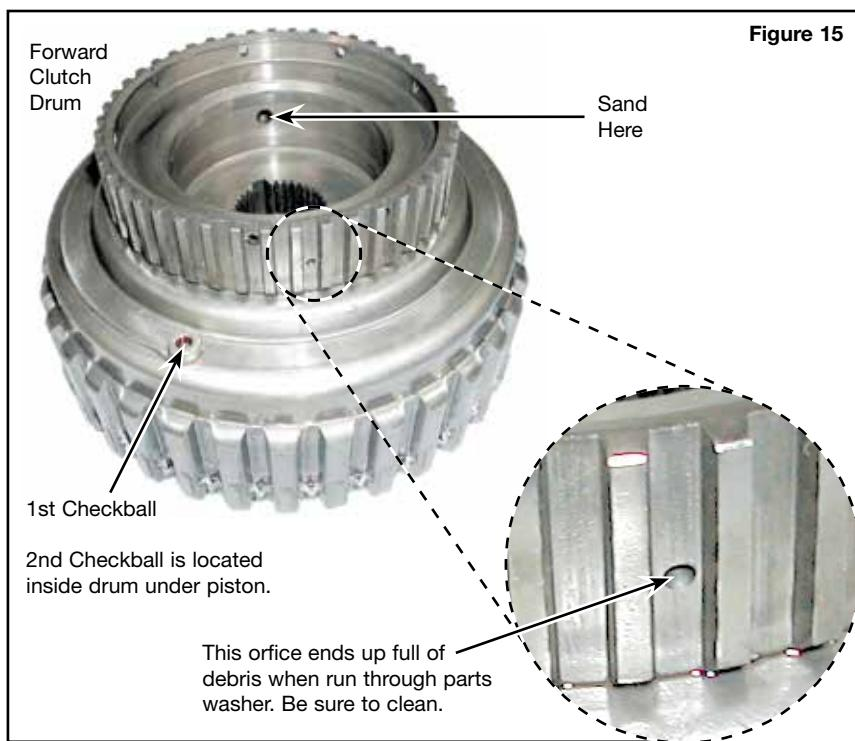

Figure 15
- Inspect the checkballs in the forward clutch drum (**Figure 15**), as they are prone to sticking. Flush with solvent or WD-40®. Also be sure that the orifice shown, is free of debris that can come from parts washers.